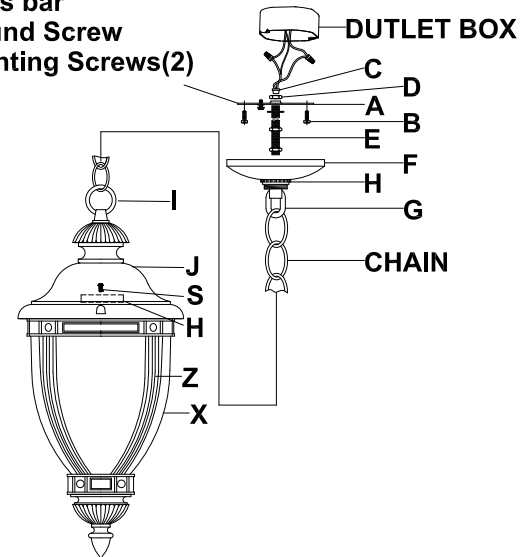

Fig. 2
CONNECTING THE WIRES (Fig. 2)
7. Connect the electrical wires as shown in Fig.2. Making sure that all wire connectors are secured. If your outlet box has a ground wire (green or bare copper), connect the fixture's ground wire to it. Otherwise, connect the fixture's ground wire directly to the crossbar using the green screw provided.